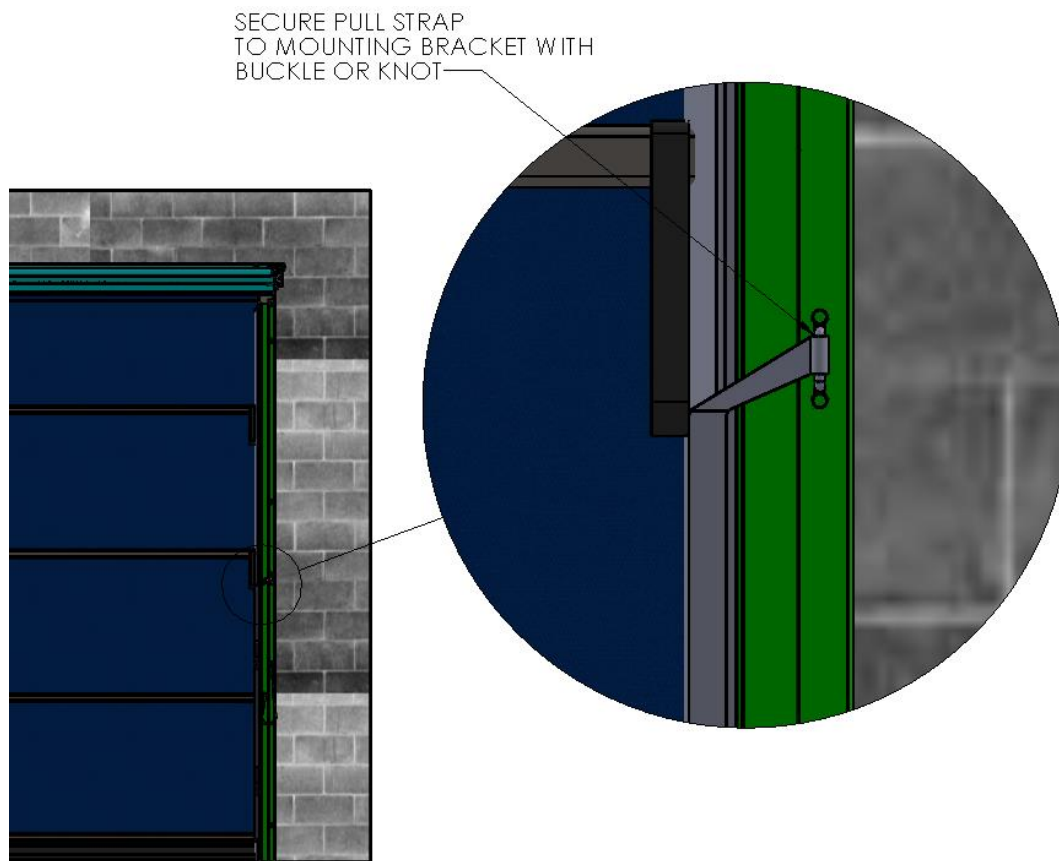

Figure 8 SECURE PULL STRAP
1. Use the Buckle provided to secure the long Pull Strap to the mounting Bracket attached to the Right-Side Track. (Figure 8 SECURE PULL STRAP)